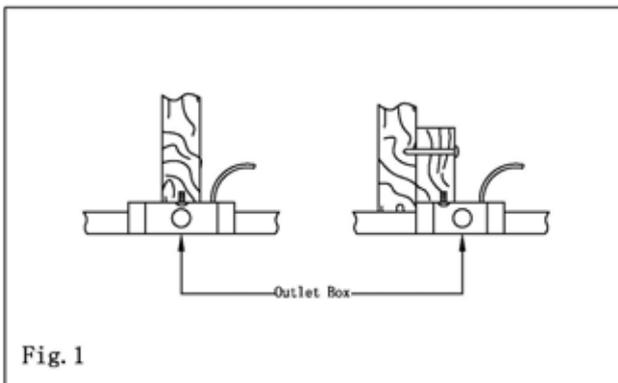

Fig. 1
3. Figure 1,2 and 3 are examples of different ways to mount the outlet box in different situations. A longer down rod may be required in sloped ceiling situations to maintain proper blade clearance.